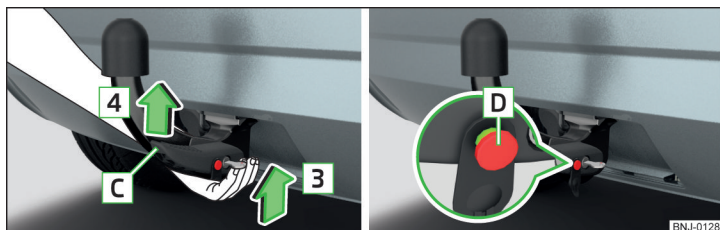

Fig. 134 Insert ball rod / trigger bolt in the extended state
- Grip the tow bar **from underneath** » Fig. 134 and insert into the mounting recess in arrow direction **3** until you hear it click into place » **!**.